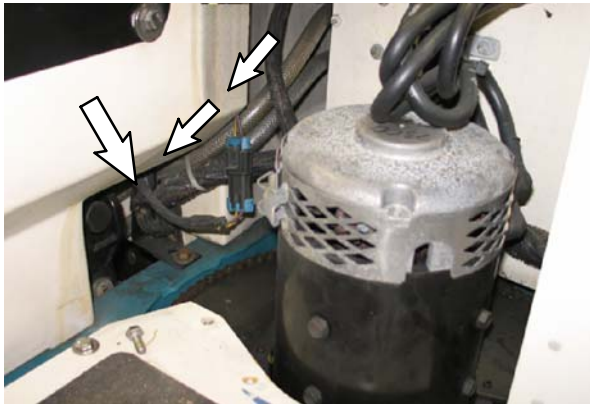

FIG. 5
7. Route both 45" (1140 mm) hoses from the operator compartment, along the main harness (away from the actuator and other moving parts), and down to the scrub head. Refer to Fig. 5.
9. Route the hose labeled DISP to the solution control manifold and use a hose clamp to connect the hose to the port on the solution control manifold where the FaST was previously located. Refer to Fig. 5.